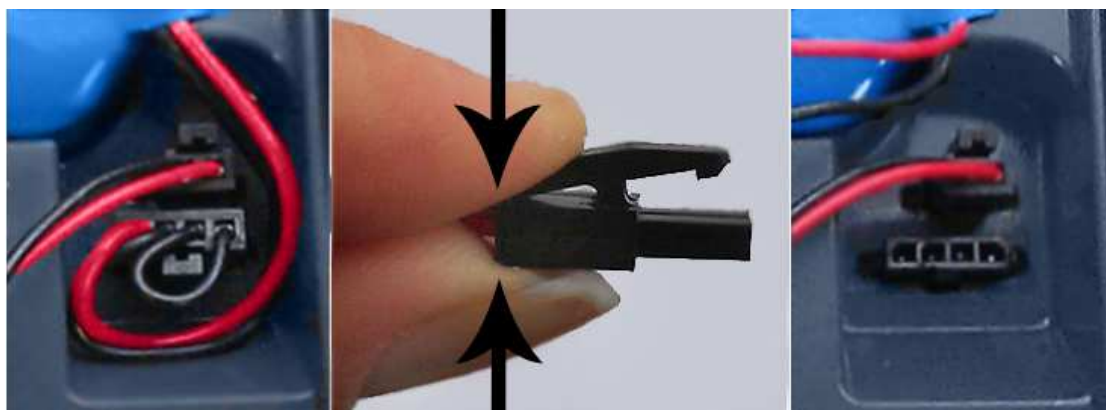

Fig. 2-25 – Disconnecting the snatch plug of the built-in battery
- Disconnect the snatch plug of the built-in battery (the lower one) by compressing the connector plug and pulling it out of the slot (see Fig. 2-25);